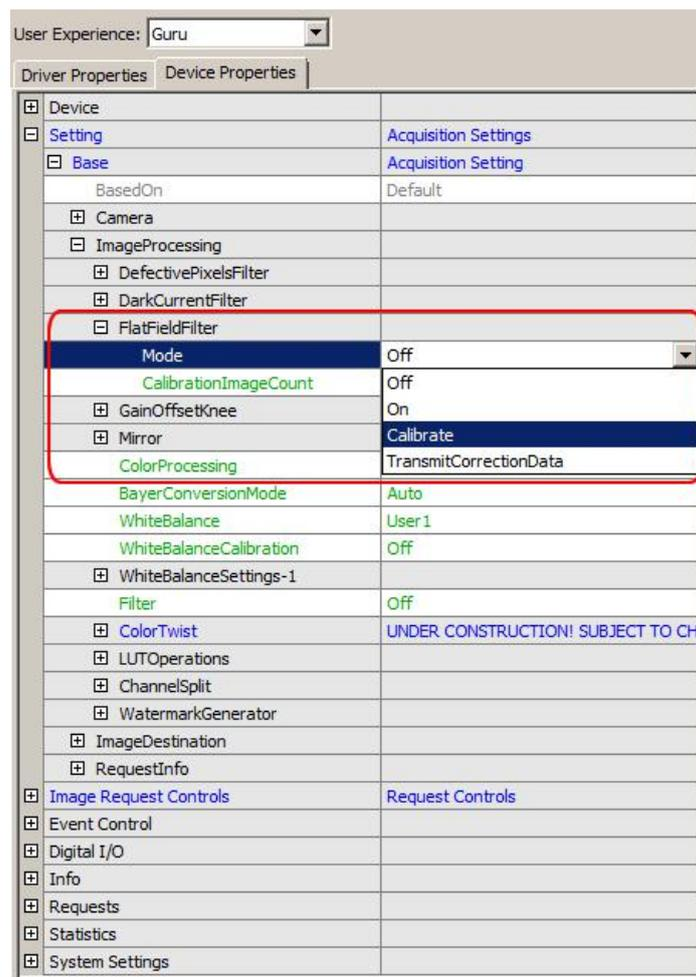

Figure 7 Mode = Calibrate
- (Filter-)Mode = *Calibrate* (see Figure 7)